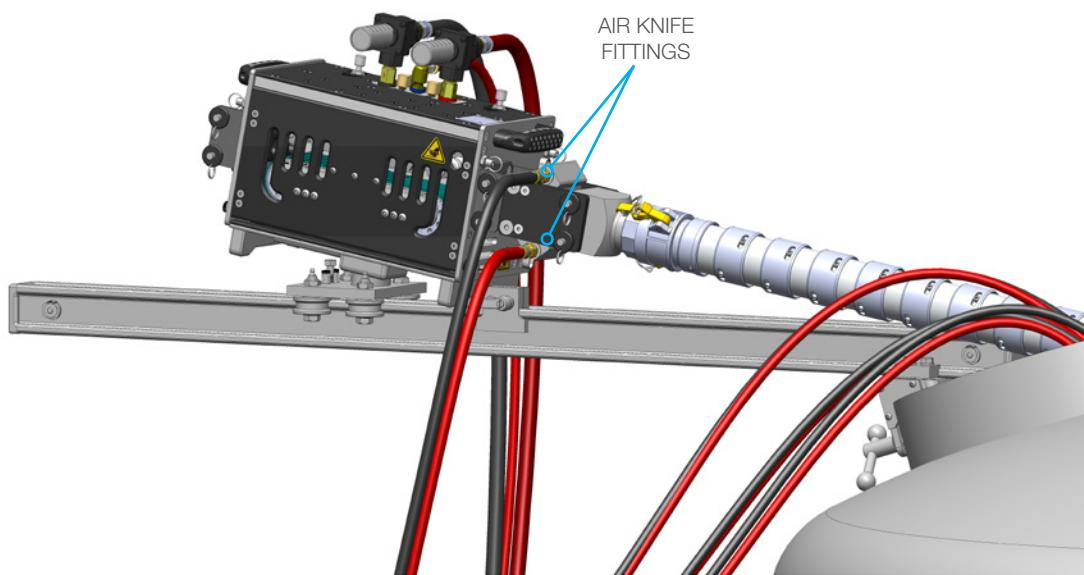

FIGURE 58
2. Using a small adjustable end wrench, fasten the other ends of the two 3/8" air supply lines to the Air Knife Assembly. The color coding does not apply to the Air Knife accessory and the supply lines may be installed in any order. (**Figure 58**)